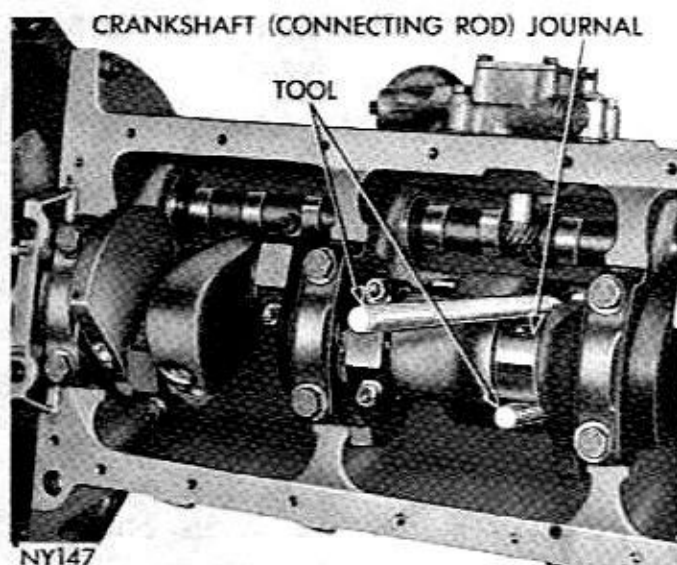

Fig. 39—Removing and Installing Connecting Rod
(1) Compression ring gaps should be located on the left side of the engine and staggered about 60° apart. Neither gap should line up with oil ring rail gaps.
(2) Rotate oil ring expander so that ends are at right side of engine. Rotate steel rails so that gaps are approximately opposite and positioned above piston pin holes.
(3) Immerse piston head and rings in clean engine oil. Slide the ring compressor, Tool C-385, over the piston and tighten with special wrench (part of Tool C-385). **Position of rings must not change during this operation.**
(4) The notch on top of piston must point toward front of engine so that squirt hole in connecting rod is toward right side of engine.
(5) Install connecting rod bolt protectors on rod bolts, the long protector should be installed on squirt hole side of connecting rod. **Rotate crankshaft so that connecting rod journal is on the center of cylinder bore.**
(6) Insert rod and piston into cylinder bore and guide rod over the crankshaft journal (Fig. 39). Be careful not to nick connecting rod journals.
(7) Tap piston down in cylinder bore, using handle of a hammer. At the same time, guide connecting rod into position on crankshaft journal.
(8) Install rod caps, tighten nuts to 45 foot-pounds.